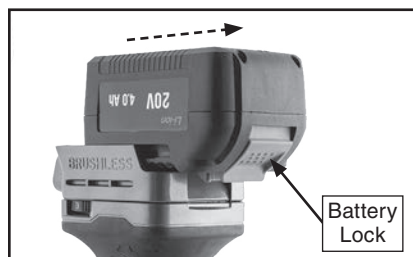

Figure 6. Location of battery lock.
1. Press battery lock (see **Figure 6**) and remove battery from router.